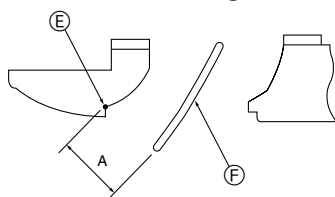

Fig. 5-10
- ① Turn off the main power switch.
- ② Disconnect the connector for the vane motor of the vent that you want to lock. (While pressing the button, remove the connector in the direction indicated by the arrow as shown in the diagram.) After removing the connector, insulate it with tape.
- ③ To adjust the desired airflow direction, slowly move the up/down vanes within the specified range. (Fig. 5-10)